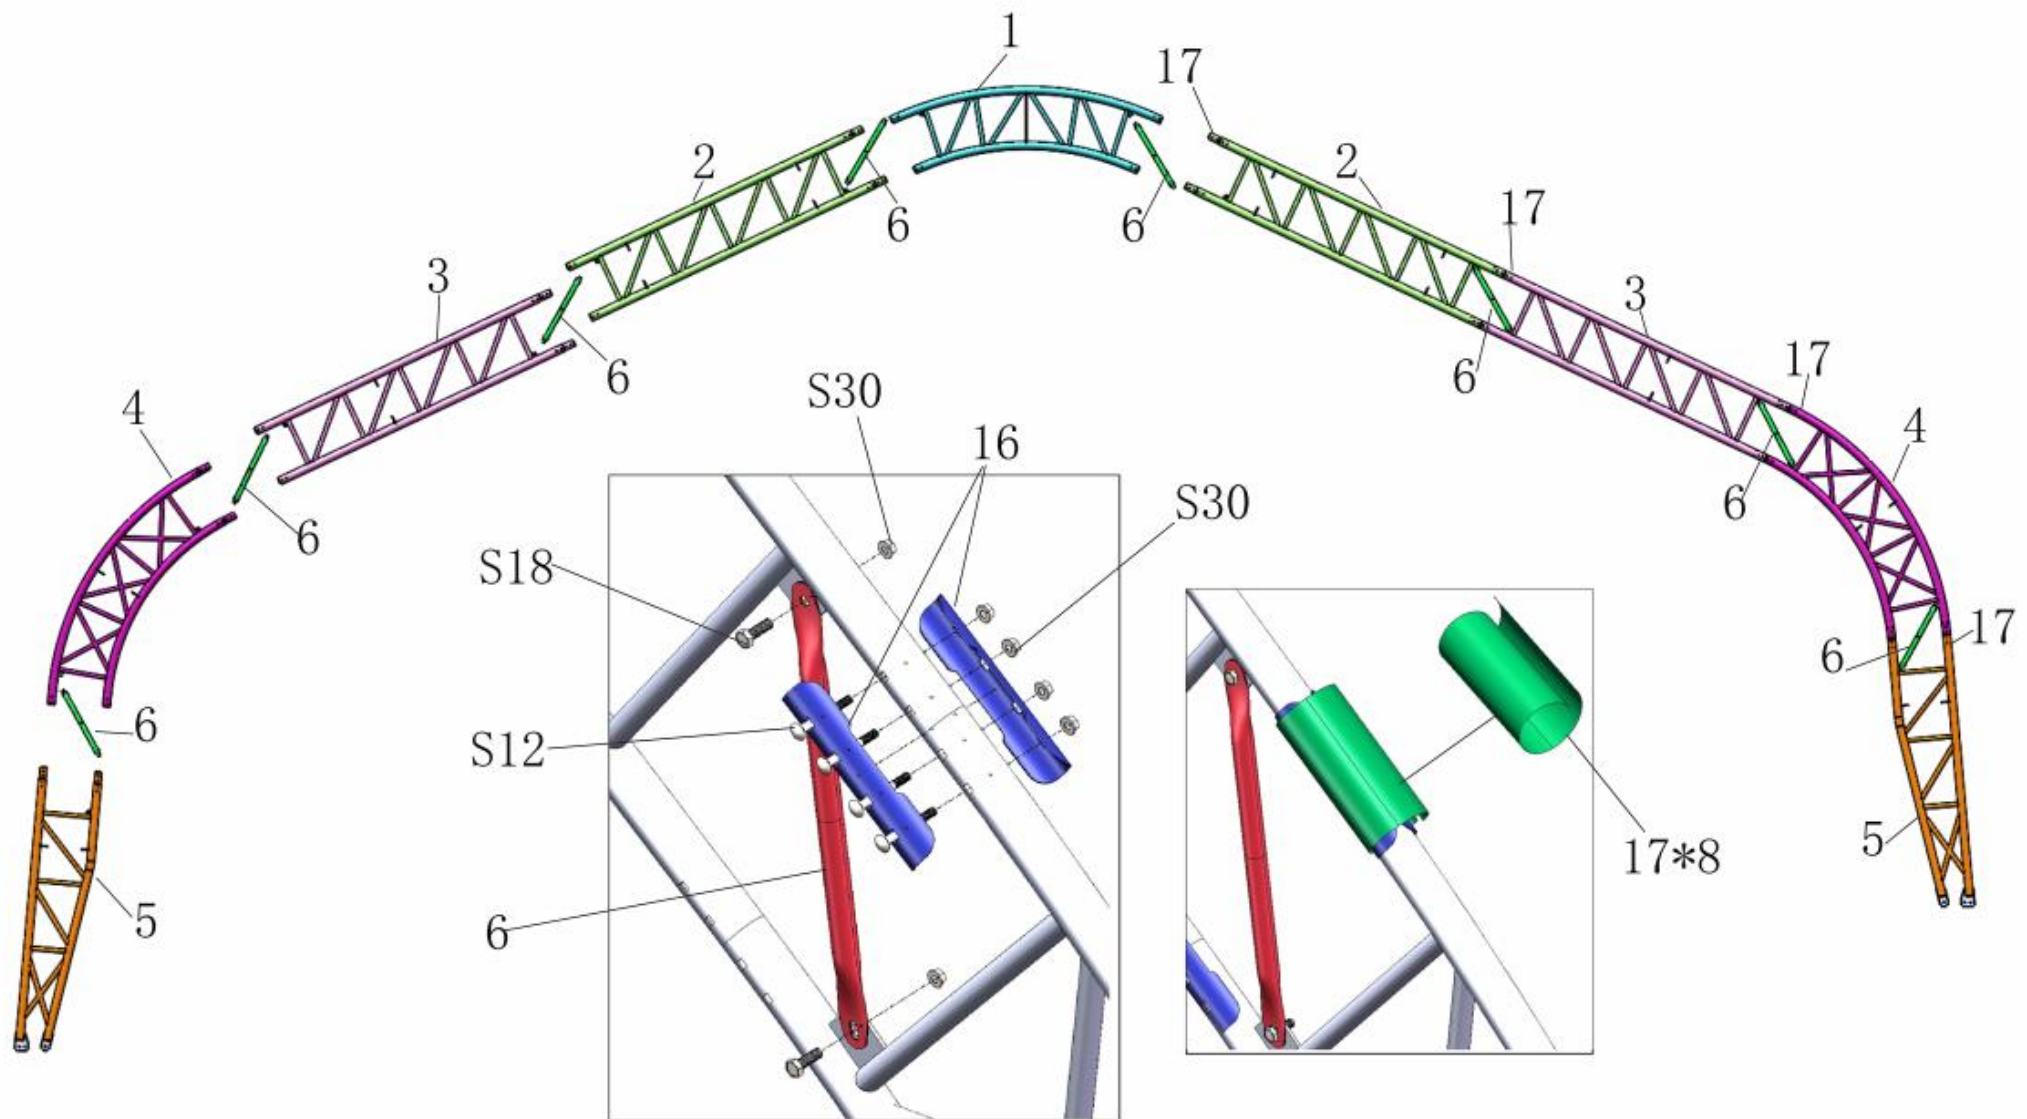

Figure 3
2. As Figure 3 shown to find one Top roof tube (No.1), two Roof upper curving tube (No. 2), two Roof middle curving tube at shoulder (No. 3) ,two Side lower curving tube (No. 4),two Lower curving tube (No. 5) and assemble every group arch with Supporting Tube between the arch (No.6). **DO NOT install the screw on the top of the truss where the fabric will rest.**
Note: Top Roof tube, Roof curving tube, Roof middle curving tube, Side lower curving tube and Lower curving tube (No.1A,2A,3A,4A&5A) which are welded with steel plates for front and back doors are different from the middle arch.(Figure 3)
3. As figure 3 shown, use the Supporting Tube between the arch(No.6) to connect the Top roof tube (No.1) with hexagon bolt 10*30mm (No. S18). Then put the PVC protective cover on the outer of connection of the arch to protect the roof cover from scratched by the outer joint. Assemble the rest of the other group double truss arch like this.